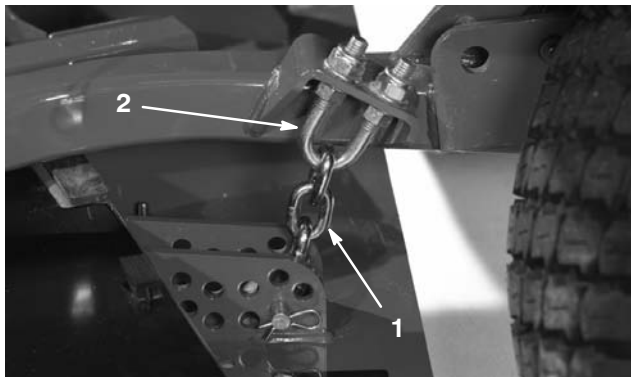

Figure 78
1. Loosen the jam nuts on the top or bottom of the height-of-cut chain u-bolt (Fig. 78).